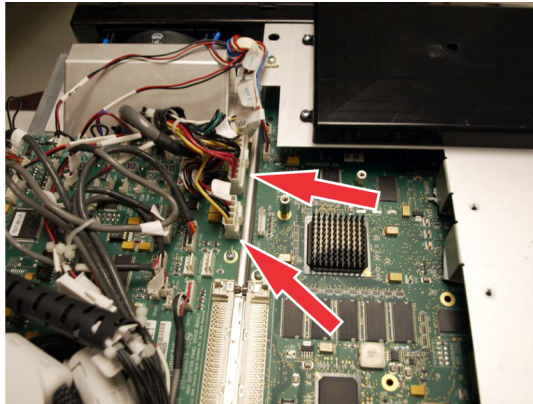

Figure 8 J121 and J36
13. Disconnect existing J121 and J36 connectors. See Figure 8 J121 and J36.